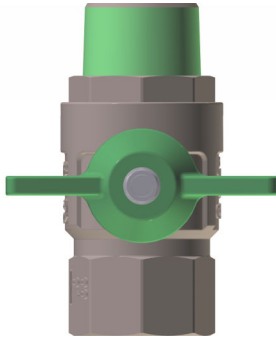

Fig. 21: Main shut off valve closed
- The main shut off valves (Fig. 21) are closed.